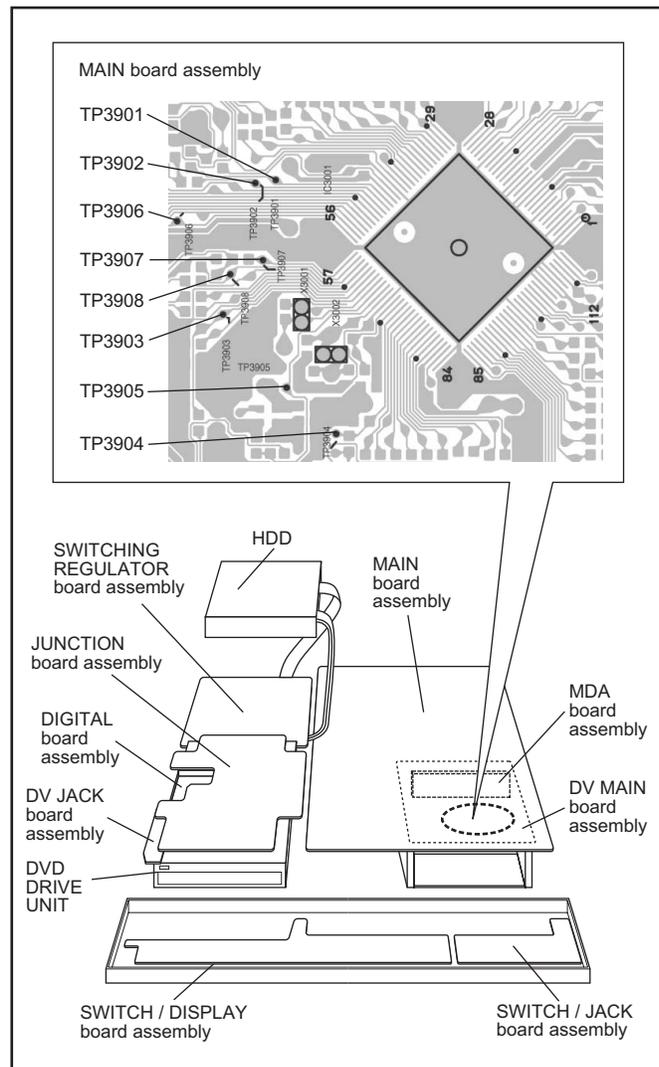

Fig.2-2a
- (1) Refer to the disassembly procedure and perform the disassembly of the major parts before removing the Mechanism assembly.
- (2) Remove the screws that fix the Mechanism, Main board assembly to the bottom chassis. If any other screws are used to fix the boards, remove them also.
- (3) Remove the combined Mechanism, HDD, DVD unit, switching regulator, digital, DV jack, junction and Main board assemblies.
- (4) If any other major parts are used, remove them also.
- (5) Connect the wires and connectors of the major parts that have been removed in steps (1) to (4). (Refer to Fig. 2-2a.)
- (6) Place the combined Mechanism, Main board and other board assemblies upside down.
- (7) Insert the power cord plug into the power outlet and then proceed with the diagnostics and servicing of the board assembly.